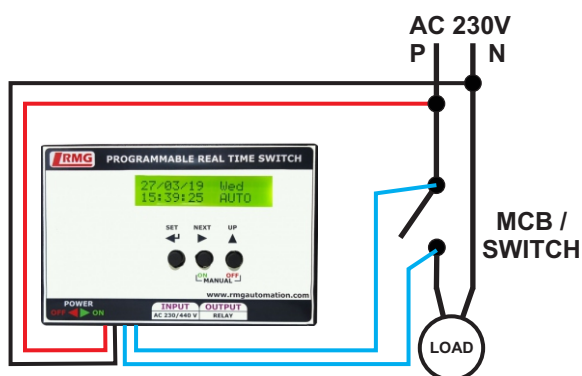

Figure1: 1Φ SWITCH/MCB
Step 2: As per the model purchased, check the label and connect AC supply (230V / 440 V) to red and black wire of timer refer figure 1.
Step 3: Connect blue pair wire to the switch/MCB of the load in parallel as shown in figure 1.